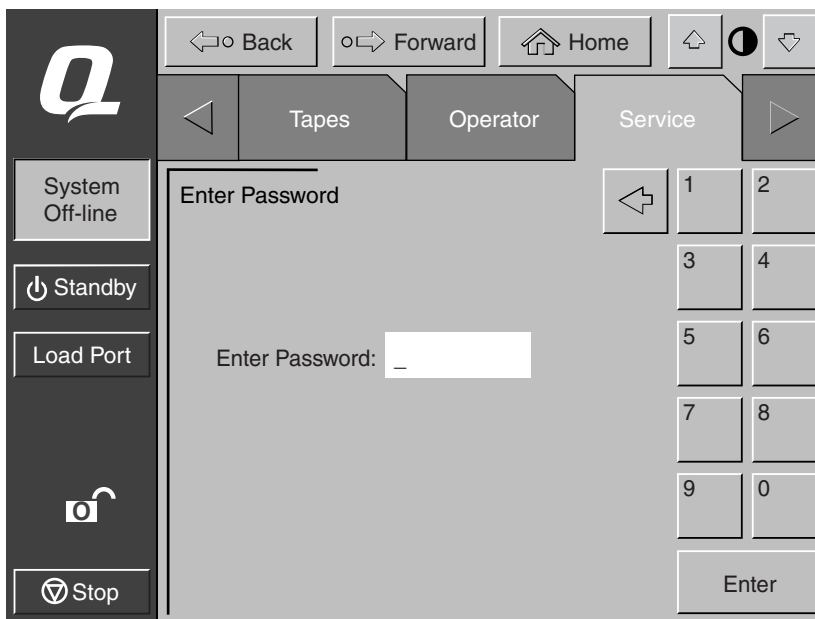

Figure 5-1. Enter Password screen
1. Press the Service tab. The control panel displays the password screen (see Figure 5-1).